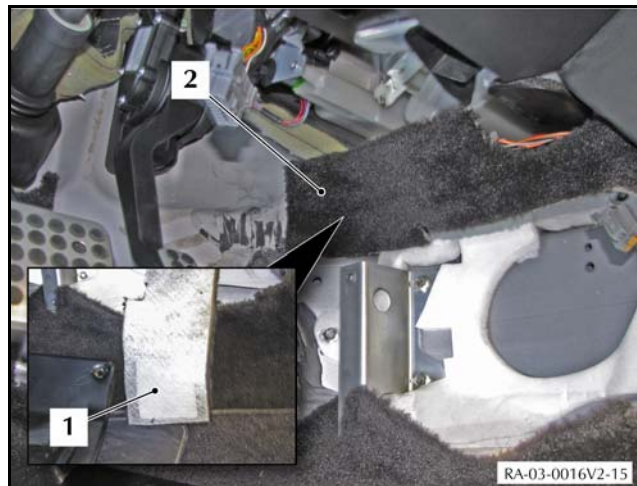

Figure 14
31. Use a piece of double-sided adhesive carpet tape approximately 50 mm square (1) to attach the loose end of the carpet to the tunnel (2) (refer to Figure 14).